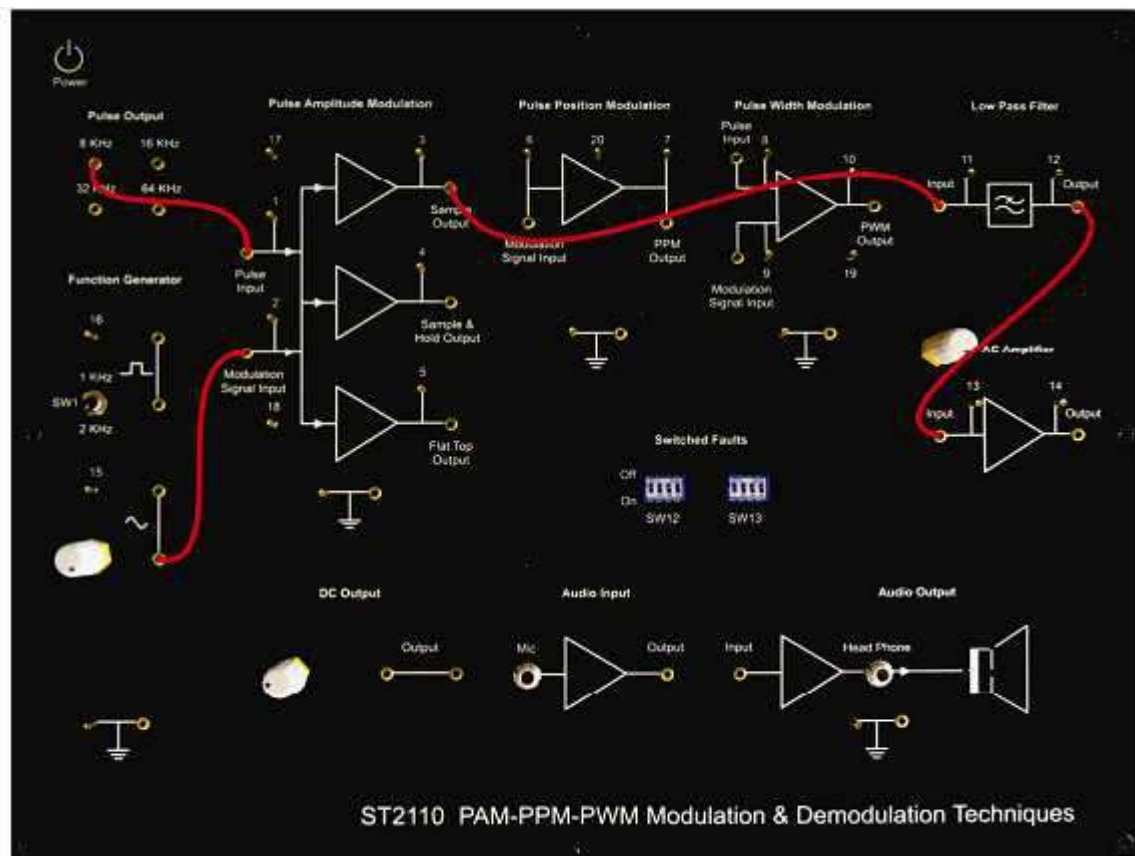

Fig. 5.6
1. Connect the circuit as shown in Figure 5.6.